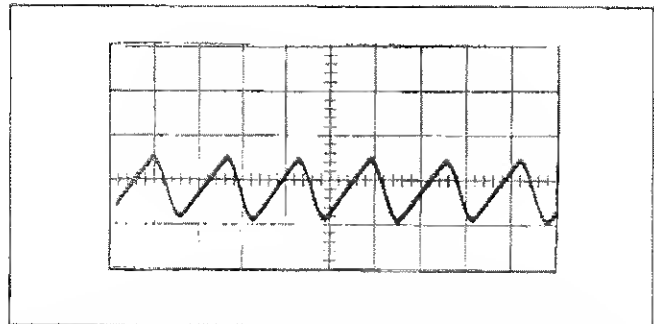

FIGURE 10. Typical Ripple Obtained for the 21 Volt Supply. The scale is 10 millivolts per division vertical, and 5 milliseconds per division horizontal.
2. The ripple in each case should be less than 40 millivolts peak-to-peak and is typically less than 30 millivolts peak-to-peak. Figure 10 shows a typical ripple for the 21 volt supplies.